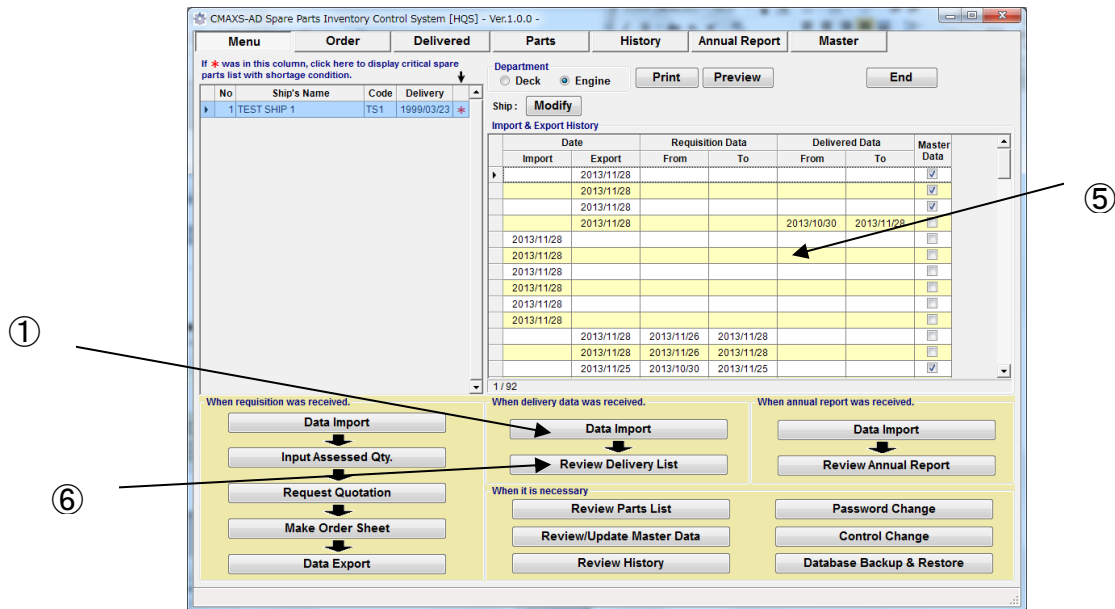

Fig.9-1 Menu Screen
On the "Menu Screen"(Fig.9-1), select [Data Import].
- (3) Confirm check mark is at left side of Delivery Data.
- (4) Select [OK] at Data Import dialog.
- (5) Import history is recorded on "Import & Export History".
- (6) On the "Menu Screen"(Fig.9-1), select [Review Delivery List].